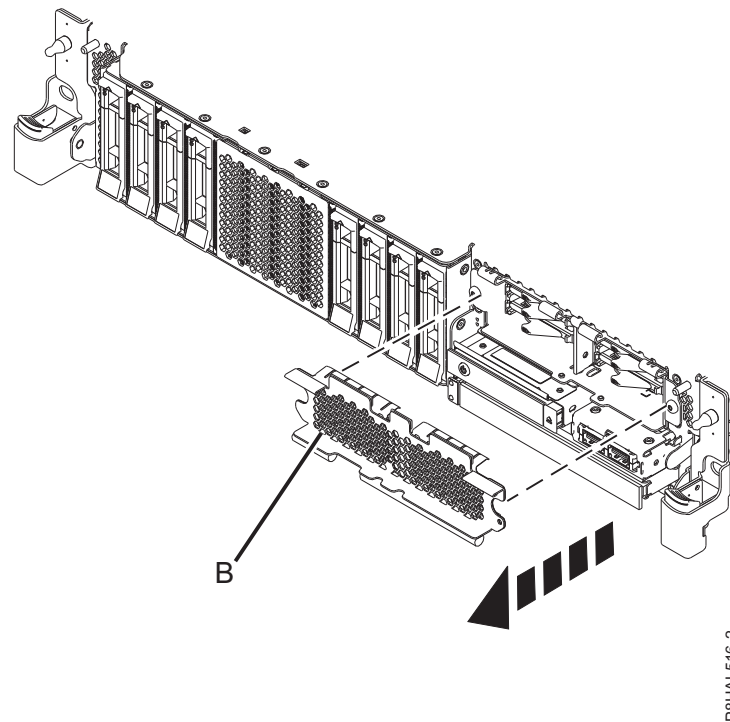

Figure 34. Removing the SSD cage cover to access the SSD slots in an expanded function system
14. To access the SSD slots, remove the perforated plate (B) covering the SSD cage as shown in Figure 34.